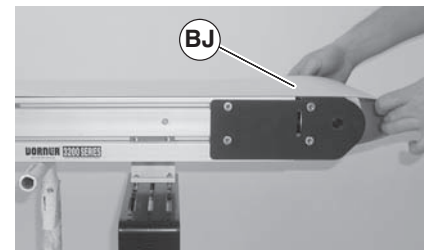

Figure 34
14. Remove belt (Figure 34, item BJ) from conveyor.